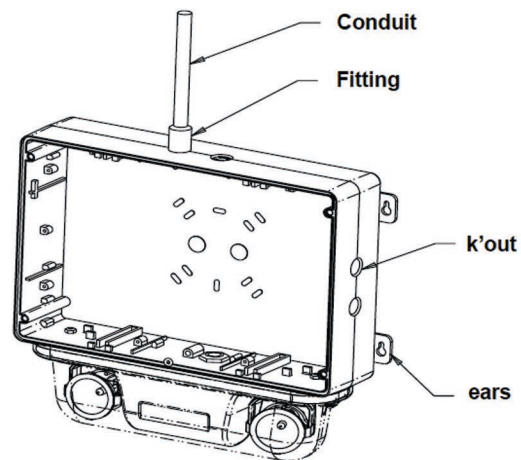

FIG 2.
- a. Install the unit on the wall with 4 screws (not provided). Use the ears located on each side (see figure 2).